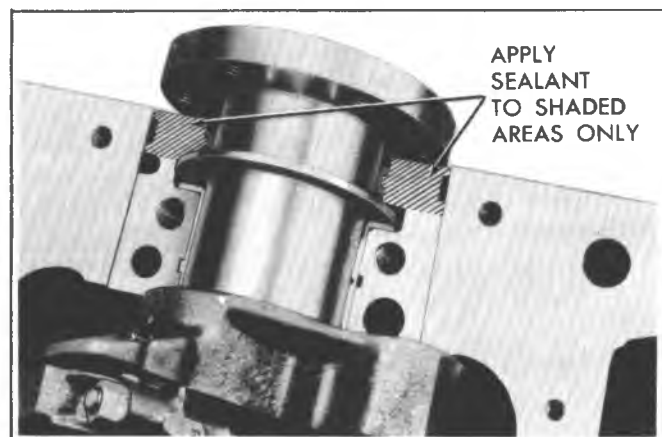

Fig. 6A4-60--Sealing Bearing Cap
5. Apply a thin coat of brush-on type oil sealing compound to block mating surface and corresponding surface of cap only (fig. 6A4-60). Do not allow sealant on crankshaft or seal.